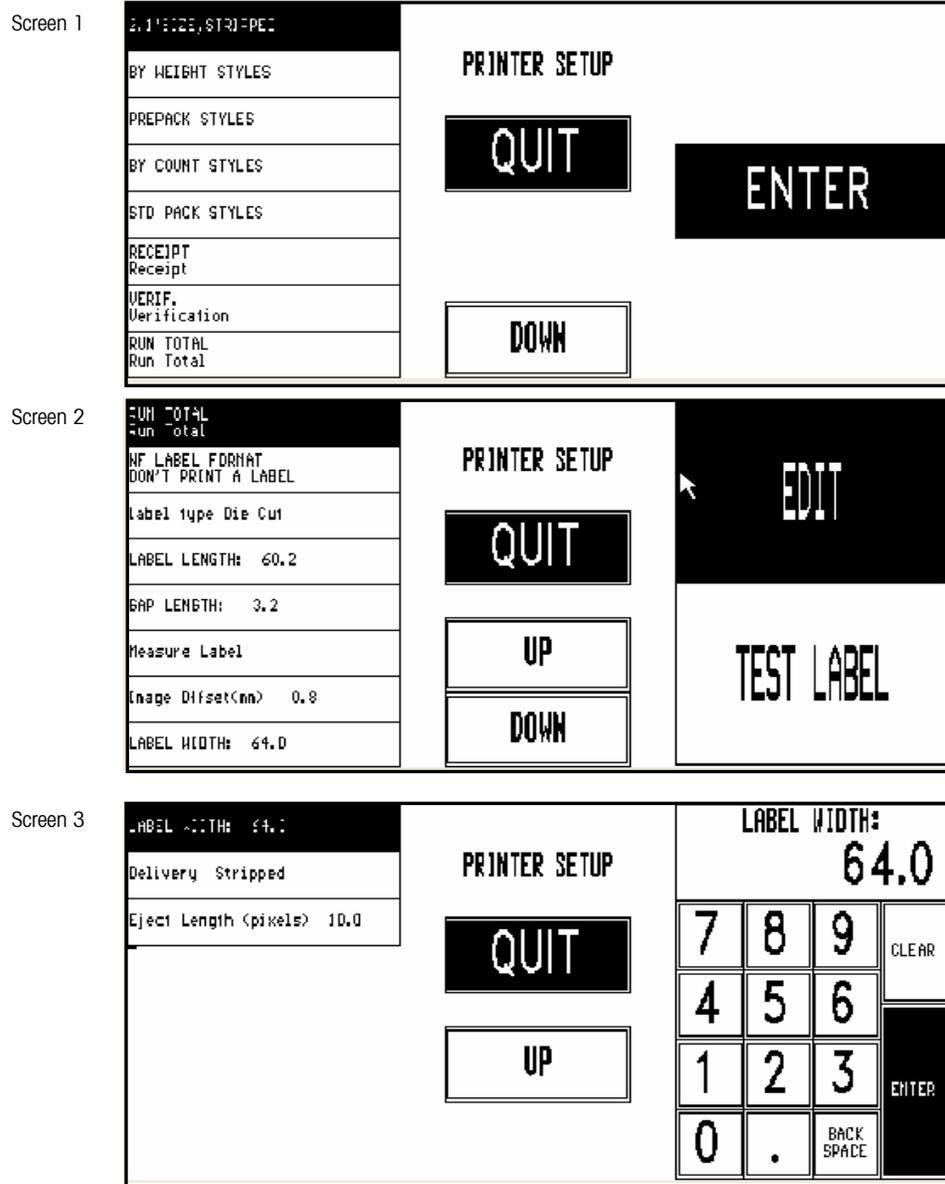
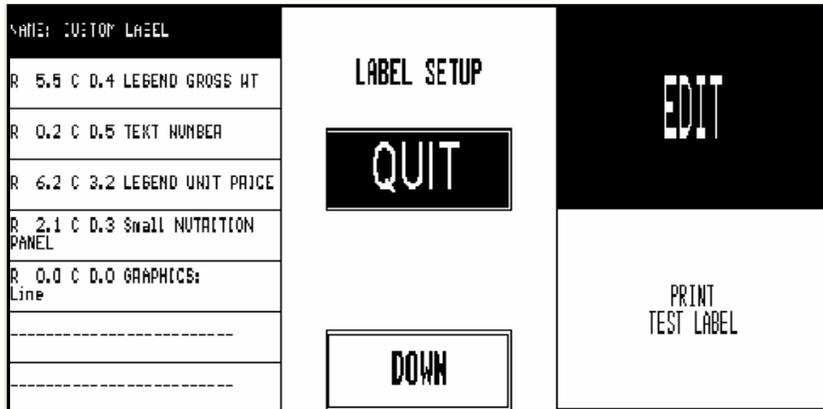

Figure 3-21: Printer Setup Screens 1, 2, and 3
Figure 3-22: Select a new Label Format or Print Test Label
To assign a label format to the default format (0), or one of the alternate formats (1-7), first select one of the label styles (BY WEIGHT STYLES, PREPACK STYLES, etc. shown on Screen 1 in Figure 3-21). Next, select the label style number you wish to edit (0-7 Figure 3-22), then touch ENTER to select a new label format from the format list.
Select Die Cut or Continuous labels. Die Cut labels are individual labels. Continuous is one continuous thermal strip that is printed and torn off one at a time. Continuous lengths can vary in length depending on the length of Extra Text or Nutrifacts. (Refer to Figure 3-21, Screen 2.)
Custom label lengths (in mm) can be entered here. When a certain default label size is selected, the default length for that label size will be automatically entered into this field. Lengths from 0 to 203 mm (7.9 in) are accepted. (Refer to Figure 3-21, Screen 2.)
The Gap Length is the space (in mm) between die cut labels and is used to compensate for variances in different label suppliers. The standard Gap Length for **METTLER TOLEDO®** specified labels are 3.2 mm. Note: 0.0 mm is used for continuous strip labels. Gap Lengths from 0 to 99.9 are accepted. (Refer to Figure 3-21, Screen 2)
This selection will measure the die cut label in the printer and enter the measured value in the Label Length Field (Refer to Figure 3-21, Screen 2)
The Image Offset (in mm) is used to raise or lower the printed image on the label referenced to a point above the label. The range is 0.0 to 31.9 mm. The label length determines the upper limit. Shorter labels will have a lower upper limit. To raise the image on a label, lower the value. To lower the image on a label, increase the value. (Refer to Figure 3-21, Screen 2) The default for die cut labels is 2.2 and for continuous 0.
This function is used to set the label width (in mm). The default is 64 mm. The range is from 0.0 to 80.0 mm. The label format is centered based on this setting. Increasing the width will shift text to the left of the label. Decreasing the width will shift text to the right of the label. (Refer to Figure 3-21, Screen 3)
Stripped delivers the labels peeled from the liner, with the liner wound up on the take up roller. **Unstripped** delivers the label to the operator with the liner attached to the labels. In the unstripped mode, multiple labels can be preprinted and attached to the package later. (Refer to Figure 3-21, Screen 3)
The Eject Length (in mm) is used to adjust where the label stops after printing. The Adjustment range is from 0 to 6.4. The default for die cut labels is 5.2 and the default for continuous strip is 0. (Refer to Figure 3-21, Screen 3)